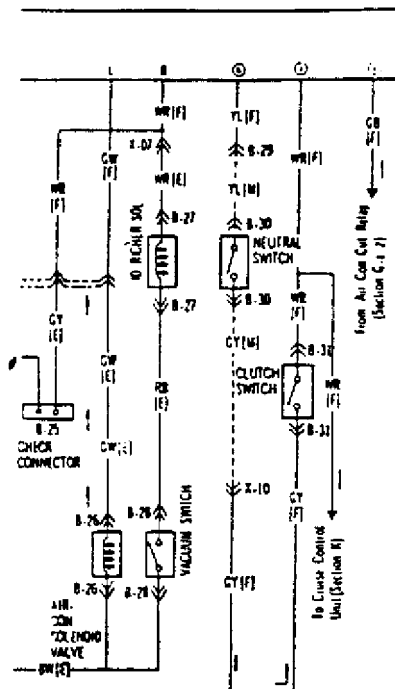

Fig. 6: Positioning Vehicle on Road Tester
7. Position the vehicle on a rolling-road tester. See Fig. 6
WARNING: Use wire rope to secure the vehicle on the rolling-road tester. See Fig. 6